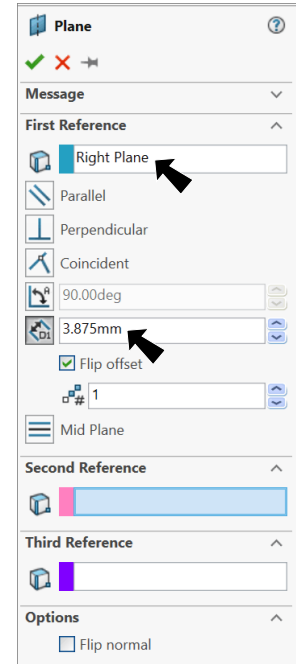

Fig. 3
Step 4. In the Plane Property Manager set: under First Reference, **Fig. 3**